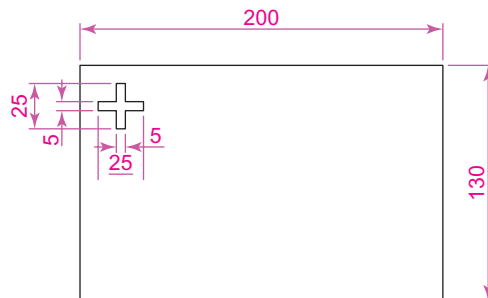

Fig. 5.3 First example – **Copy Object** – outlines
1. Construct Fig. 5.3 using **Polyline**. Do not include the dimensions.